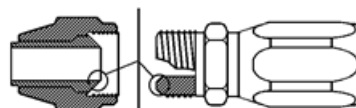

FIG 16.
- ii. The dry seal to 30° cone seat. (Fig 16)